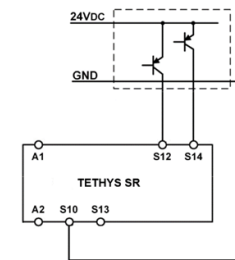

Fig. 8:
- For the applications according Fig. 8 and 9, make sure that the reference potential of the signal generator and the TETHYS IP65 SR is the same